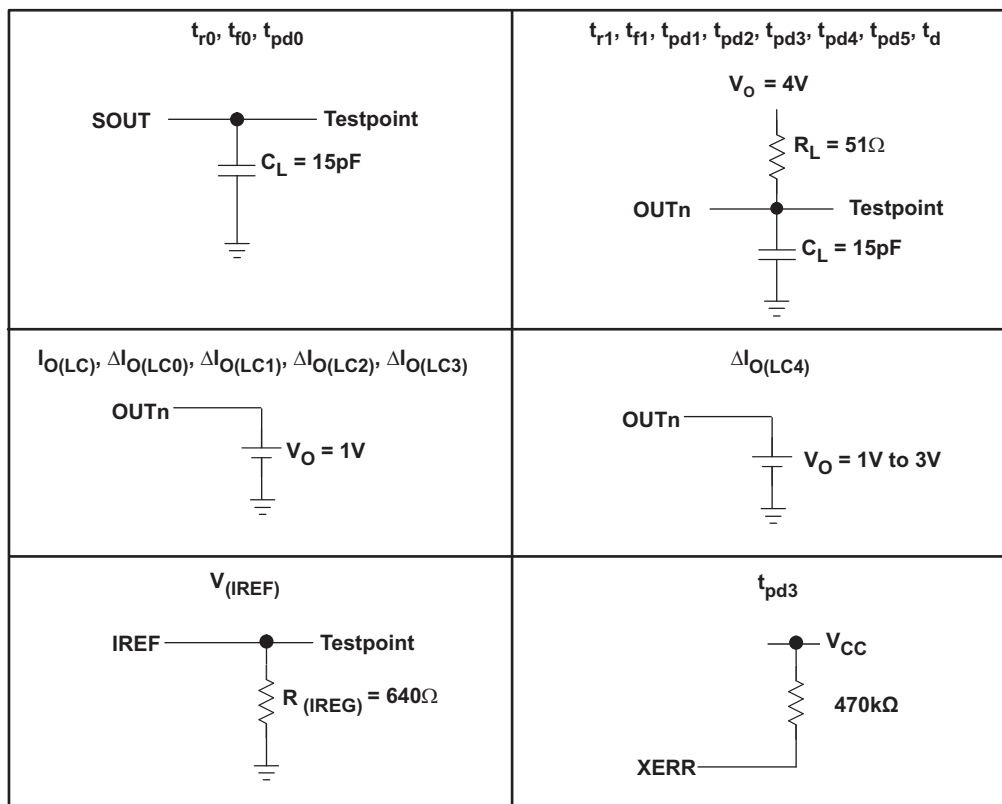

Figure 2. Parameter Measurement Circuits
| $I_{O(LC)}$         | Constant sink current (see Figure 2)       | All output ON, $V_O = 1\text{V}$ , $R_{(IREF)} = 640\Omega$                                                                        | 54             | 61         | 69      | mA            |
| $\Delta I_{O(LC0)}$ | Constant sink current error (see Figure 2) | All output ON, $V_O = 1\text{V}$ , $R_{(IREF)} = 640\Omega$ , OUT0 to OUT15, $-20^\circ\text{C to }85^\circ\text{C}$               |                | 1          | $\pm 4$ | %             |
| $\Delta I_{O(LC1)}$ | Constant sink current error (see Figure 2) | Device to device, Averaged current from OUT0 to OUT15, $R_{(IREF)} = 1920\Omega$ (20mA) (2)                             |                | -2+0.4 | 4       | %             |
| $\Delta I_{O(LC2)}$ | Constant sink current error (see Figure 2) | Device to device, Averaged current from OUT0 to OUT15, $R_{(IREF)} = 480\Omega$ (80mA) (2)                              |                | -2.7+2 | $\pm 4$ | %             |
| $\Delta I_{O(LC3)}$ | Line regulation (see Figure 2)             | All output ON, $V_O = 1\text{V}$ , $R_{(IREF)} = 640\Omega$ , OUT0 to OUT15, $V_{CC} = 3\text{V to }5.5\text{V}$ (3)    |                | 1          | $\pm 4$ | %/V           |
| $\Delta I_{O(LC4)}$ | Load regulation (see Figure 2)             | All output ON, $V_O = 1\text{V to }3\text{V}$ , $R_{(IREF)} = 640\Omega$ , OUT0 to OUT15 (4)                            |                | $\pm 2$    | $\pm 6$ | %/V           |